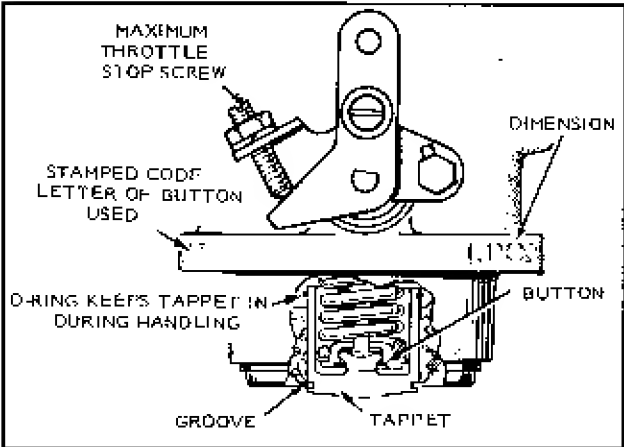

FIGURE 3-28. TAPPET REMOVAL
**CAUTION** Be sure to hold the pump drive securely to the pump body when removing the tappet, Figure 3-28. If not, the pump will come apart and be difficult to reassemble. Also, the metering sleeve may drop off the plunger into the sump when the plunger is removed. If the mechanic is not aware of it, he could put the pump back together, but it will not operate. If the plunger port is not enclosed by the sleeve, there will be no fuel delivery.